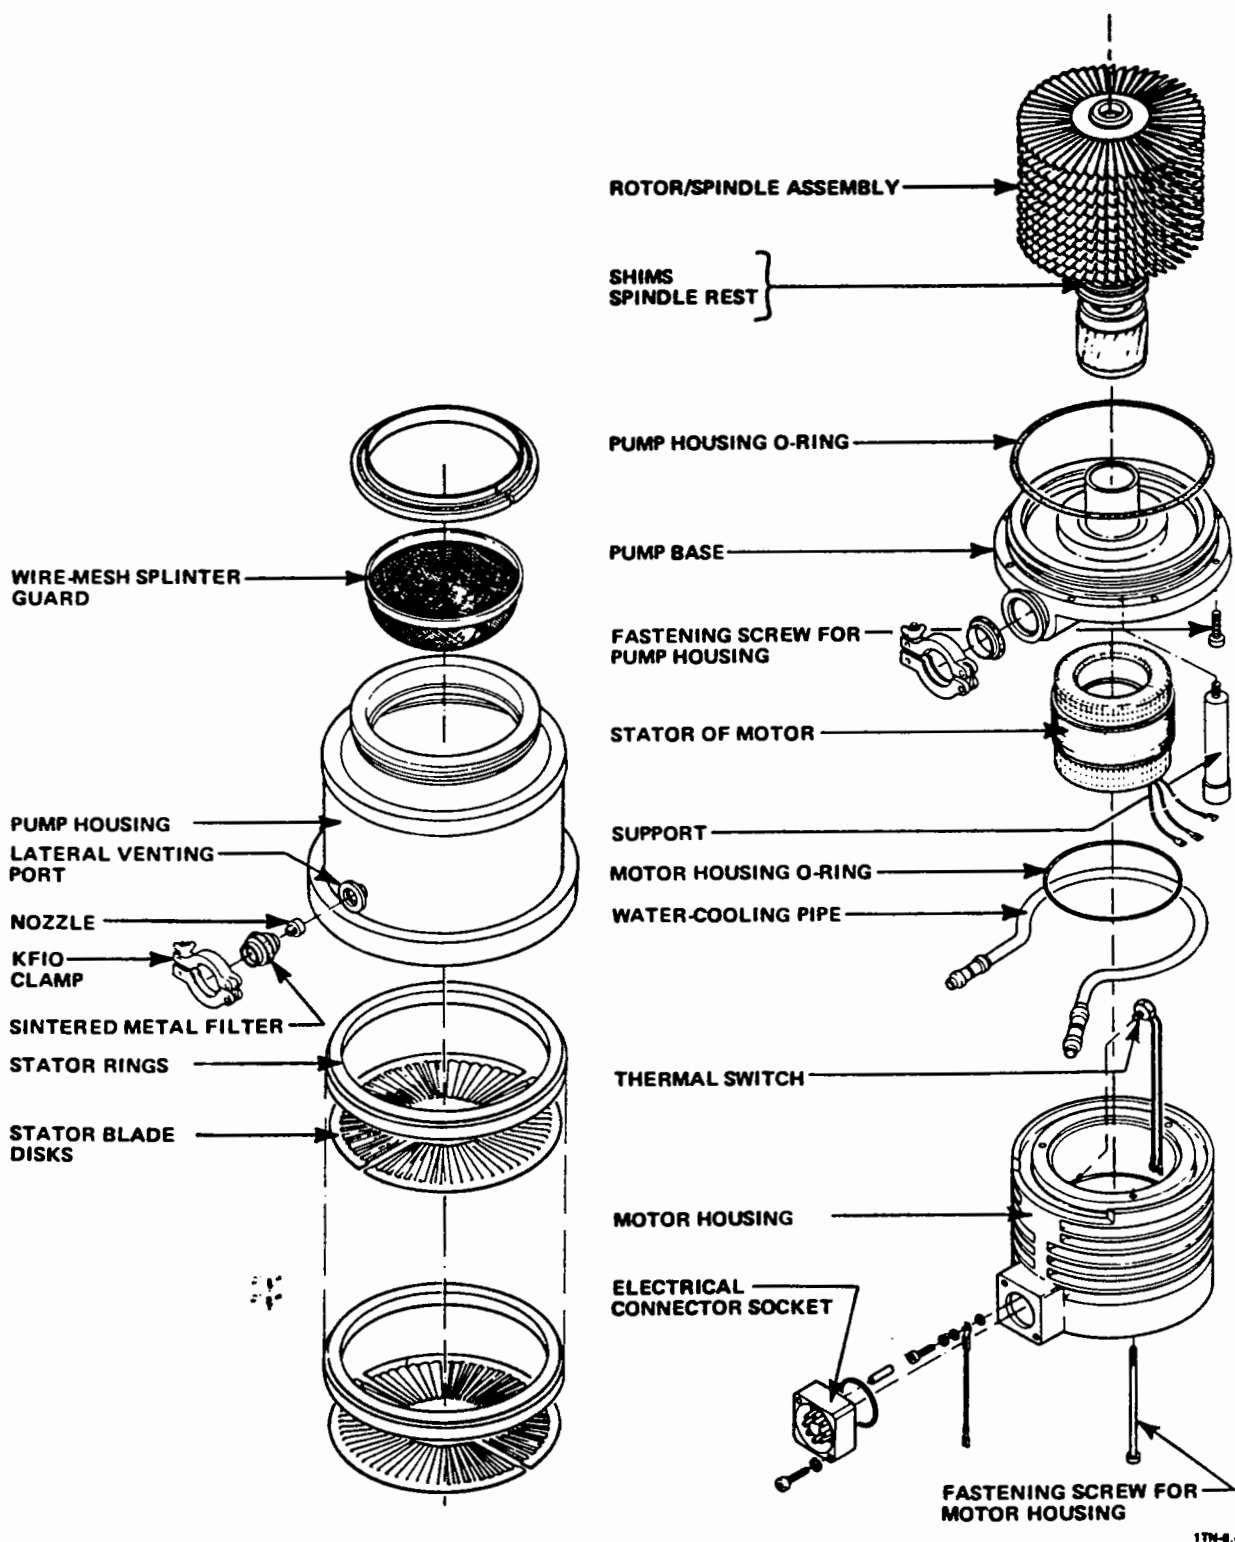

Figure 5-1. TMP-1000 Exploded View
Figure 5-1 shows an exploded view of the TMP-1000. Refer to this figure as necessary in the following sections.
Slight contamination (e.g., by an oil film) can be cleaned without disassembling the turbopump. In case of heavy contamination, however, it will be necessary to first disassemble the pump as described in Section 5.4, and then apply cleaning solvent to the rotor blades, stator rings, and stator disk halves using a brush (see Fig. 5-1).
4. Check the motor stator (see Fig. 5-1) for any possible friction marks. Remove any marks, which indicate insufficient radial play, by slightly polishing them with Emery cloth (120 grain).
The following spare parts and accessories are supplied with each new rotor/spindle assembly (see Fig. 5-1).